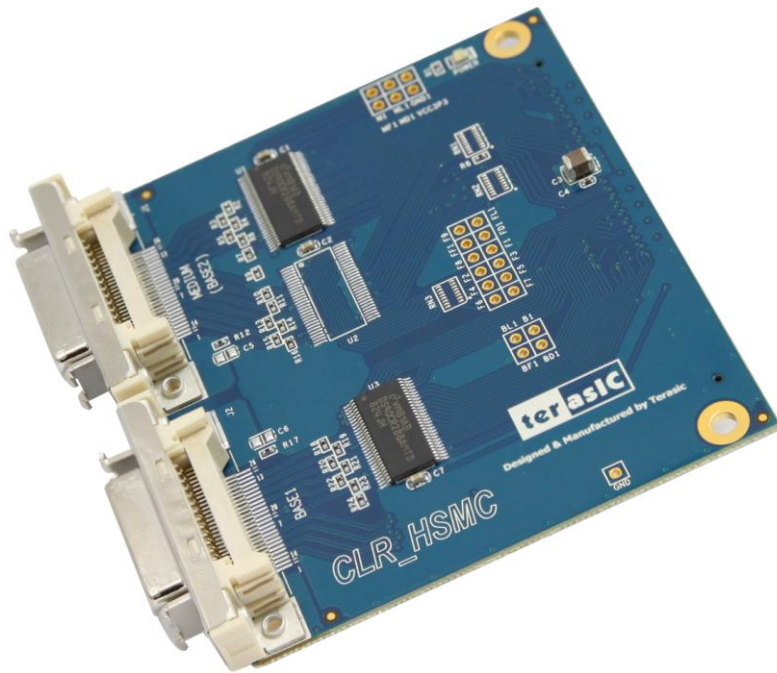

Figure 1-1 Picture of the CLR-HSMC Board
**Figure 1-1** shows the photo of the CLR-HSMC board. The important features are listed below: